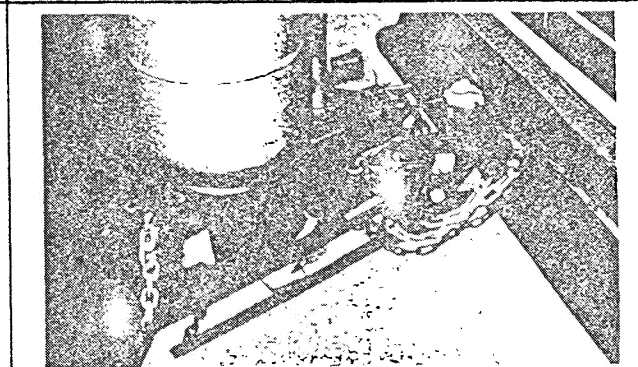

Fig 12
**CAUTION:** Retract the hitch jack completely for maximum ground clearance. Remove the jack pad (See Fig. 12) and stow in the car's trunk along with leveling jack and other gear used when stopped. NEVER TOW YOUR TRAILER WITH THE JACK DOWN. Check that the fold-away step is up and that the main door is completely closed and LOCKED for towing. If it is not locked the constant vibration of travel may cause it to open with possible damage.